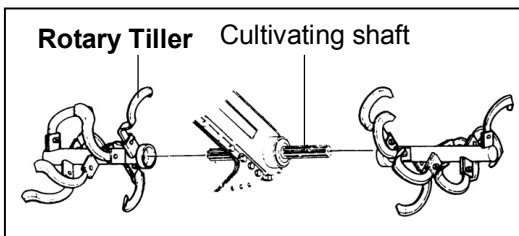

Fig.9-1
① Attach the rotary tiller with dividing of left and right in the location of engine like [Fig.9-1].